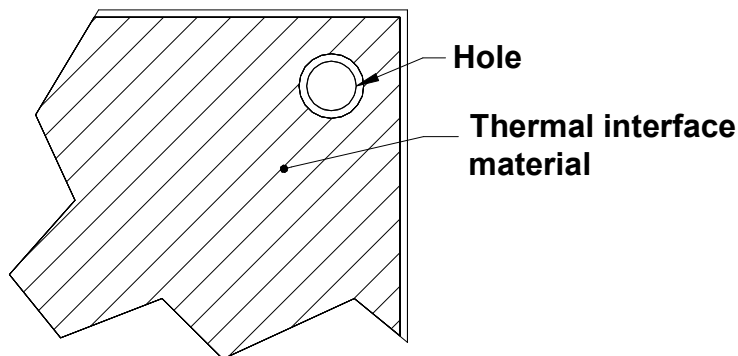

Figure 1 - Thermal Pad Design
- **Thermal interface material:** Due to the flatness irregularities of both the heatsink and power module baseplate, a thermal interface material must be used between the heatsink and the power module baseplate to minimize the thermal contact resistance. A conformal thermally conductive interface material or pad is required to fill the gaps. The pad should be between 0.005 to 0.008-inch thick and have a minimum thermal conductivity of 2 W/m-K. We suggest 0.005-inch thick Berquist QPAD3 thermal interface material. The interface material should completely surround the mounting hole/slot (see Figure 1). Pad clearance hole diameter should be 1.02 mm (0.040 inch) larger than heatsink/cold plate mounting hole. This will prevent excessive flexing of the base plate when torquing in screws. Thermal grease is not recommended for the thermal interface material.